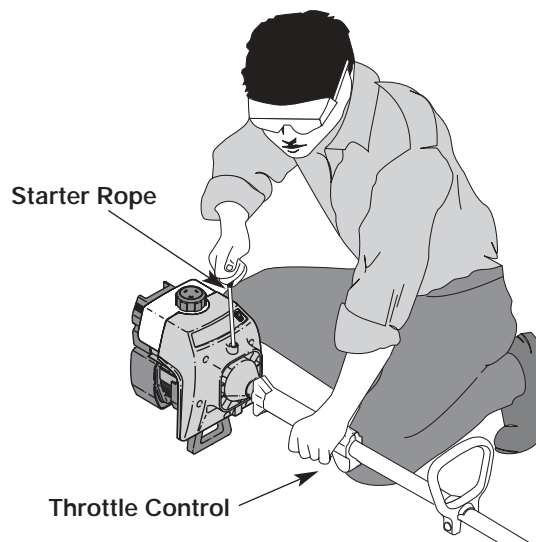

Figure 8
WARNING: Avoid accidental starting. Make sure you are in the starting position when pulling the starter rope. See Figure 8. To avoid serious injury, the operator and unit must be in a stable position while starting.
5. With the unit in the starting position (see Figure 8), squeeze the throttle control to the wide open (full throttle) position. Pull the starter rope briskly 5 times while still in the **FULL** choke (A |—|) position. If the engine attempts to run before the fifth pull, proceed to step 6.
7. Pull starter rope 1 to 3 times, briskly, to start the engine. See Figure 8.
1. Release your hand from the throttle control. See Figure 8. Allow the engine to cool down by idling.